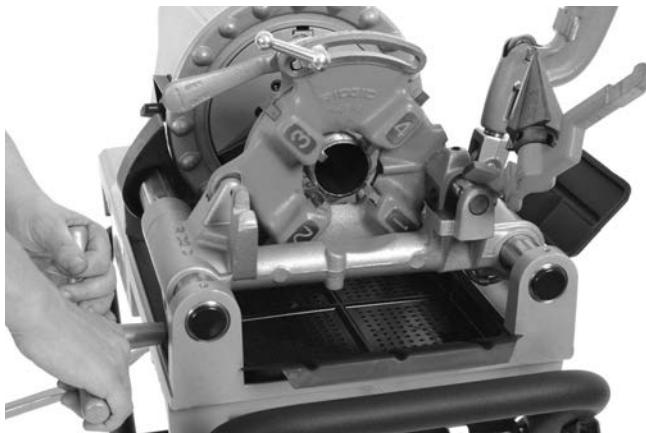

Figure 24 – Threading Pipe (811-A Quick Opening Die Head shown)
- Turn carriage handwheel to move the die head to the end of the pipe (Figure 24). Apply slight force to the handwheel to start the die head onto the pipe. Once the die head starts threading the pipe, no more force is required on the carriage handwheel.